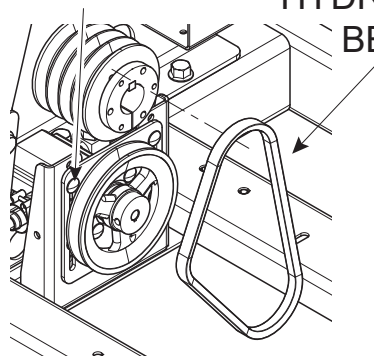

Figure 5.8, Replacing Hydraulic Belt
2. Loosen the two bolts below the pulley as shown in Figure 5.8 and push the pulley slightly upward to loosen the tension on the hydraulic belt.